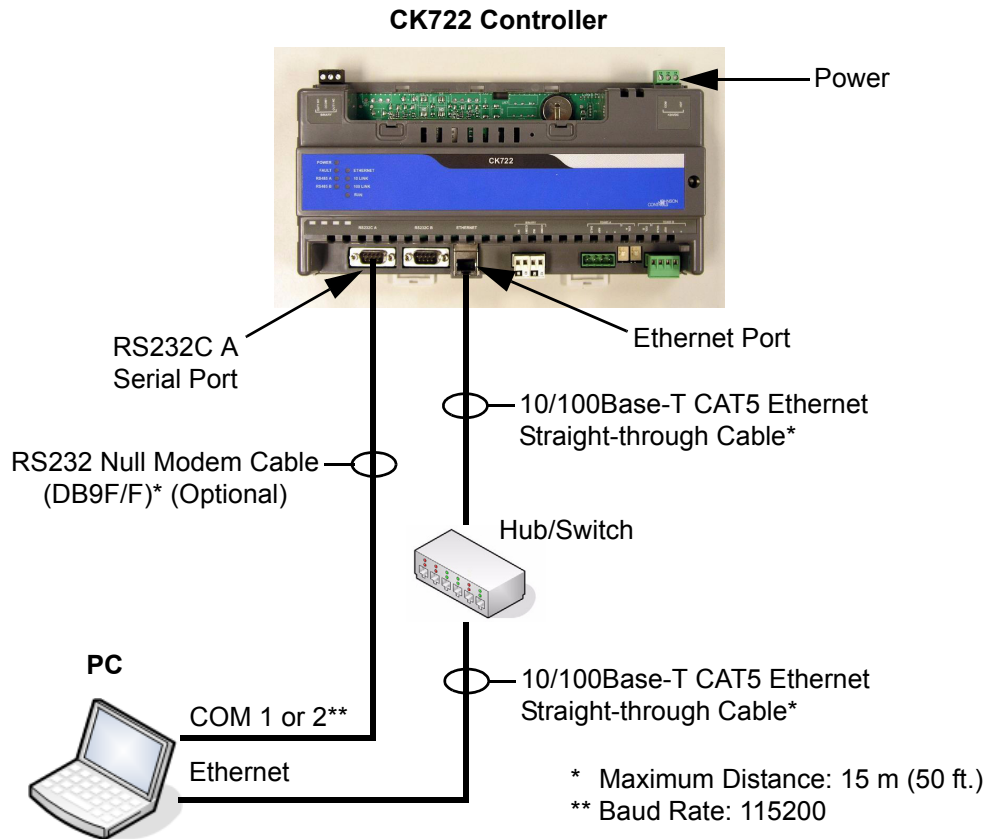

Figure 2-1: PC to CK722 Controller Connections
The CK722 disk image must be installed on a standalone PC networked with the CK722 controller (see Figure 2-1 on page 2-2). The following hardware and software are required to install the CK722 disk image:
1. Disconnect the CK722 from the Ethernet network, and connect a switch/hub with two straight-through Ethernet cables between the Ethernet port of the CK722 and your computer. See Figure 2-1.